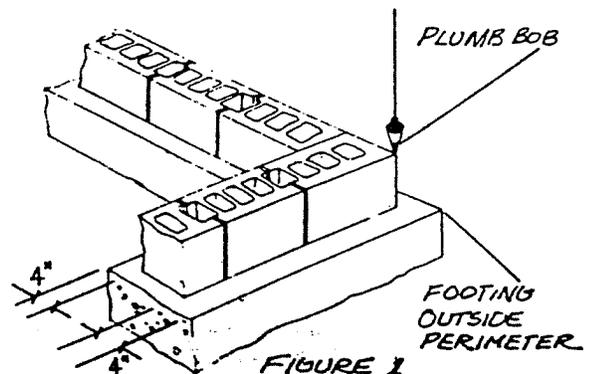

FIGURE 1
2. Using a plumb bob from the foundation layout string-line, locate outside corners of the block foundation. Measure about 4 in. beyond corner points to establish footing edge lines (see Figure 1). Outline both outside and inside perimeters of the footing with string. Dig the footing trench to required depth. Install forms of 1/2 inch APA® grade-trademarked plywood or 2 x 8's supported by 2 x 4 stakes driven into the soil about 2 ft. apart (see Figure 2). These stakes should be driven below the top of the formboards, to facilitate leveling the concrete.